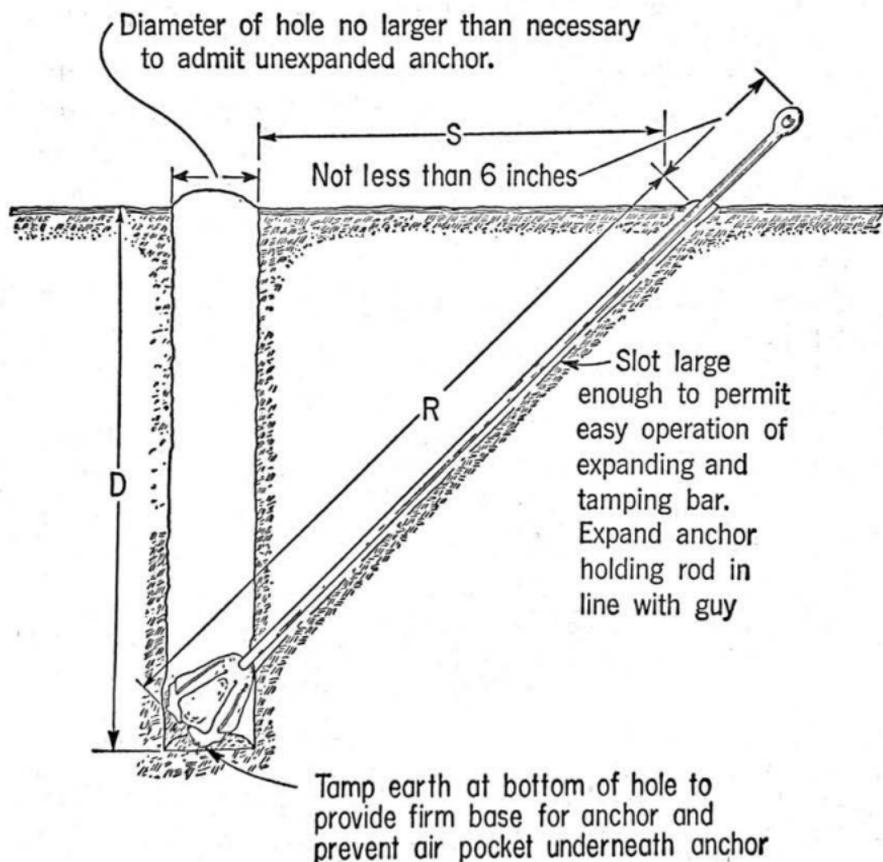

Fig. 3
- (a) Digging a vertical hole to the required depth, then slotting over to align guy rod with guy as shown in Fig. 3. The slot should be made before anchor is placed in
hole. The dimensions of D, S and R shown in Fig. 3 are approximately as follows when $\frac{\text{Lead}}{\text{Height}} = 1$ and $\frac{\text{Lead}}{\text{Height}} = \frac{1}{2}$: